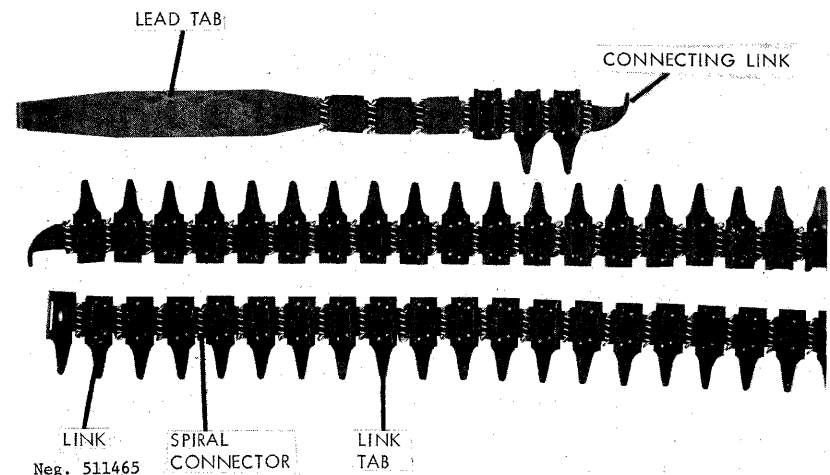

Figure 166. MG34 feed belt.
a. The ammunition belt for the MG34 is constructed from 50 semicircular links held to each other by a spiral connector (fig 166). Only this belt can be used with the MG34. Load the belt by pressing a cartridge into each link until the tab on the link snaps into the groove of the cartridge case. Long belts can be made by seating the last or connecting link of one belt into the first link of another belt and locking them together by inserting a cartridge. If a leading tab is not available, leave the first few links empty to serve as a leading tab.